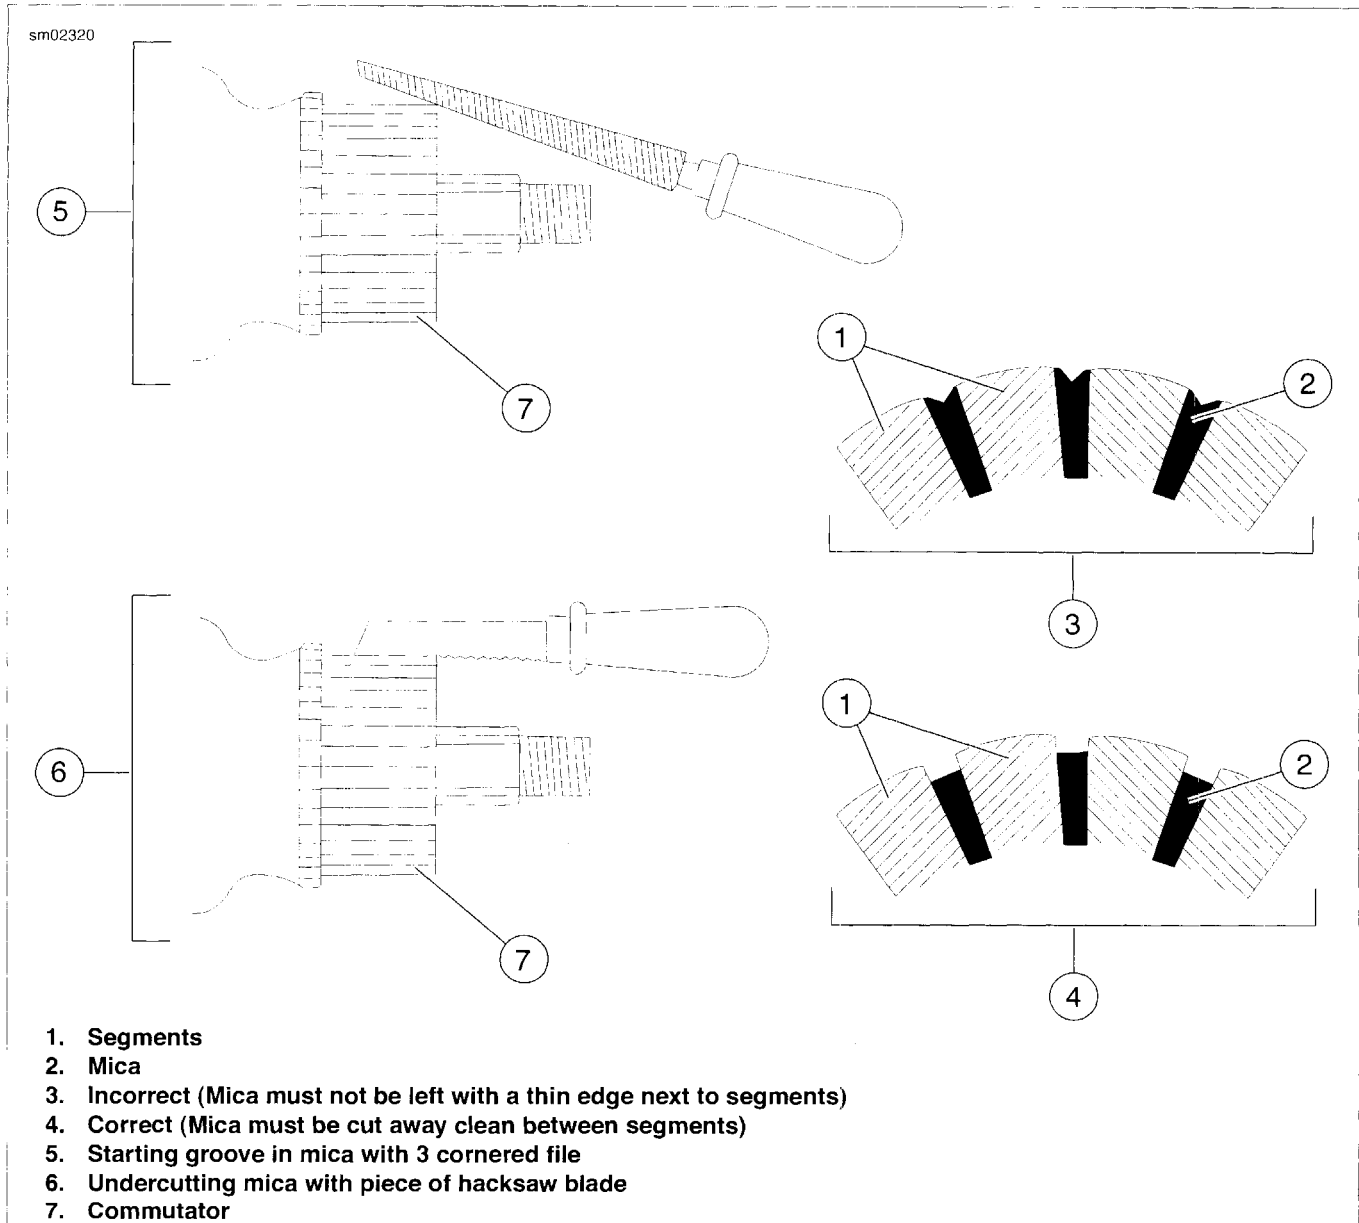

Figure 6-29. Undercutting Mica Separators
- See Figure 6-29. If an undercutting machine is not available, undercutting can be done satisfactorily using a thin